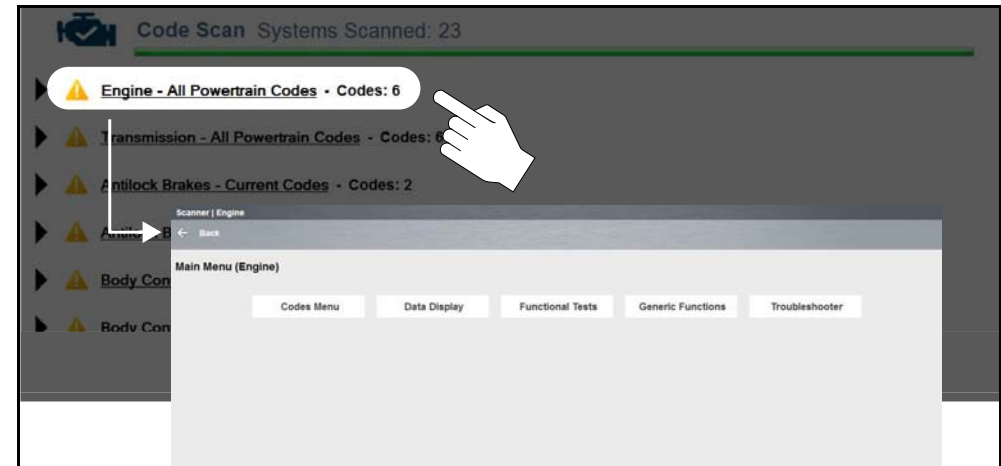

Figure 5-20 System title (opens System Main Menu)
- **Systems Code list with totals** - A categorized system list with code totals is displayed in the order they are scanned. To view the main menu for a system in the list, select the system title (Figure 5-20).